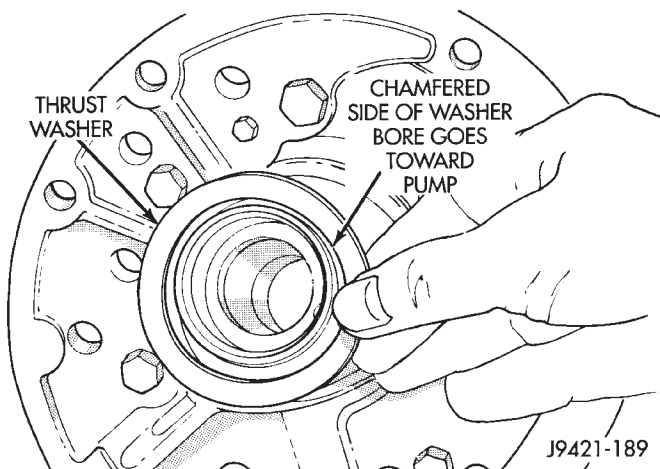

Fig. 107 Front Clutch Thrust Washer Installation
(37) Coat front clutch thrust washer with petroleum jelly to hold it in place. Then install washer over reaction shaft hub and seat it on pump (Fig. 107).